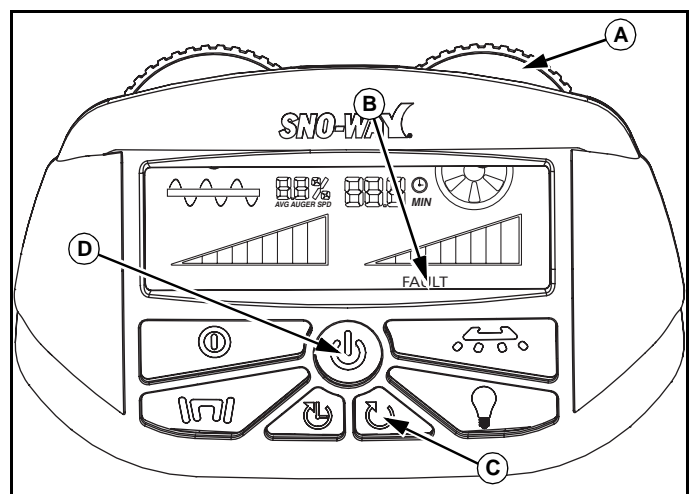

Figure 1-19
When the spinner is overwhelmed with material, the word FAULT (B) will be illuminated on the screen. The right Spinner Dial  (A), Power Button  (D), and Reset Fault Button  (C) will flash red. The graph will disappear and the spinner will attempt to clear itself of the jam. If the jam is released, the spreader will resume its prior operation. If the jam has not been released the unit will beep, and stop functioning. The word FAULT (B) will remain illuminated on the screen. The Spinner Dial and Reset Fault button will flash red, while the Power button will be solid red. (See Figure 1-19.)